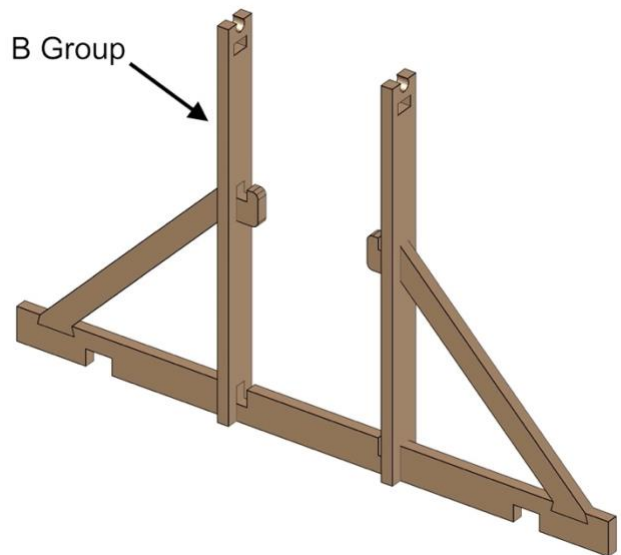

Fig. 10
- Fig. 10 shows the completed process (repeat for both sides).